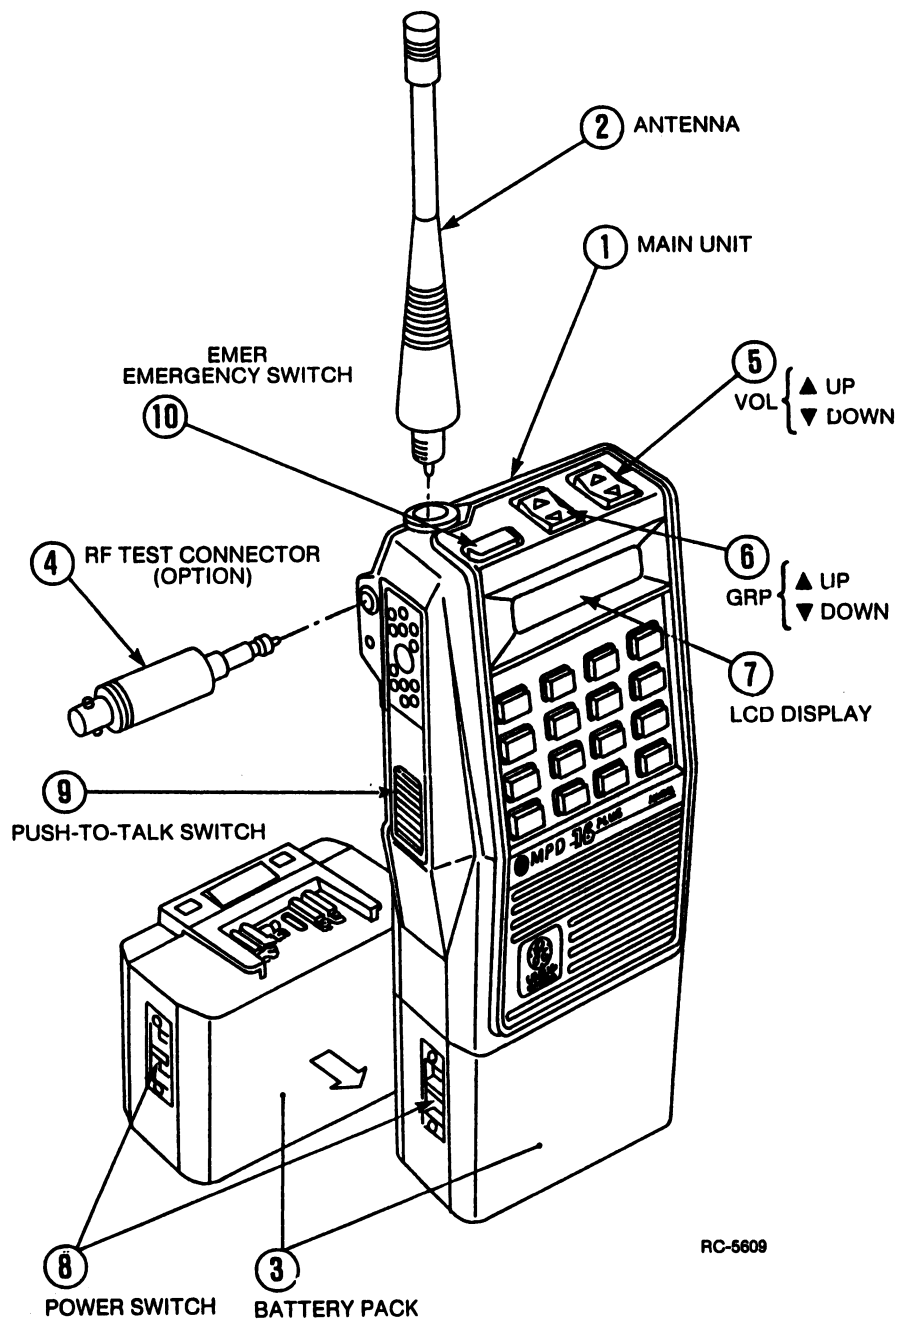

Figure 1 - M-PD 16^{PLUS} CONTROLS AND ACCESSORIES
Assemble these parts into one unit according to the following procedure and as shown in Figure 1.
2. Slide the battery pack along the bottom of the M-PD main unit in the arrow-marked direction shown in Figure 1, until the battery locks into place.